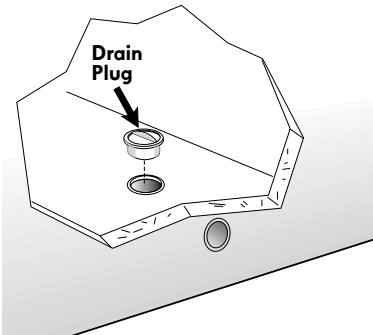

Figure 3
- Remove the drain plug inside the freezer by turning counterclockwise (see figure 3). Defrost water will drain out. Check pan occasionally so water does not overflow.